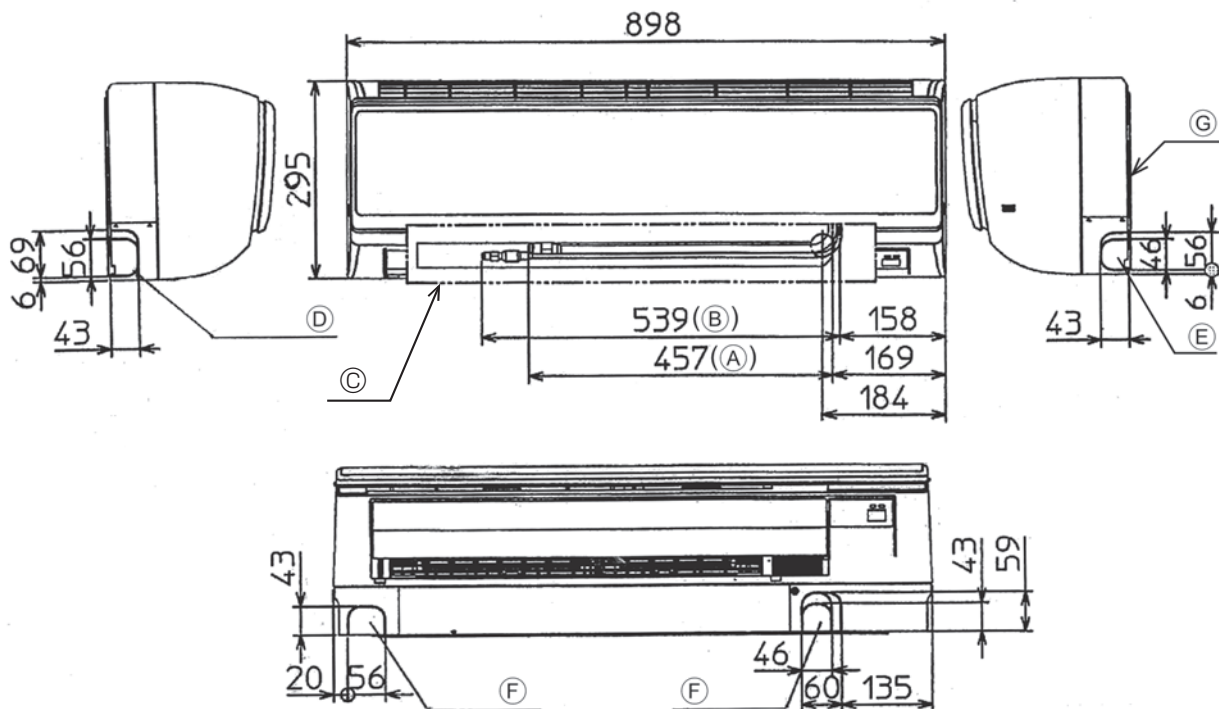

Fig. 4-2
4.2. Positioning refrigerant and drain piping (Fig. 4-2)
- (A) Gas pipe
- (B) Liquid pipe
- (C) Drain hose (Effective length: 400)
- (D) Left-side piping knockout hole
- (E) Right-side piping knockout hole
- (F) Lower piping knockout hole
- (G) Mount board